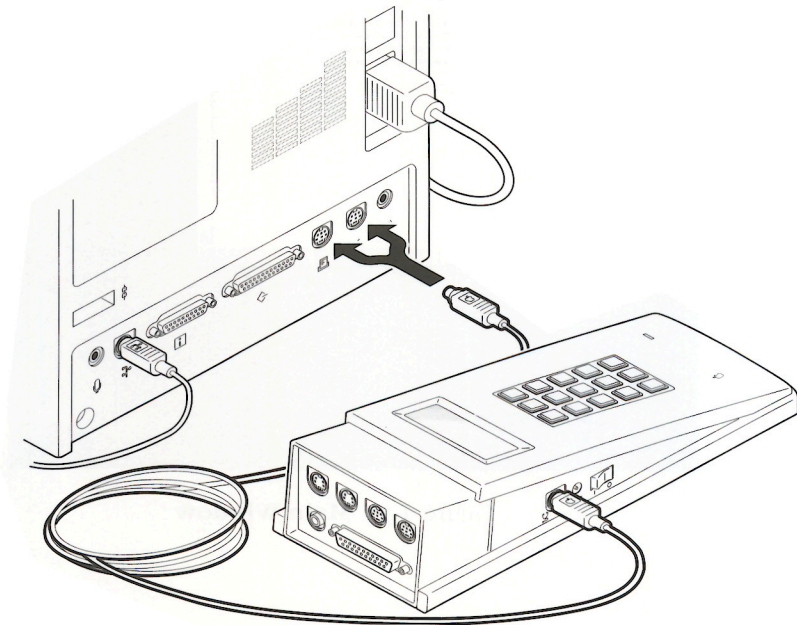

Figure 4-4 **Report Generator Setup**
1. If you'll be using the *Report Generator* to receive a log, switch off power to the Macintosh computer. Connect one end of the serial cable to the built-in serial port on Apple TechStep (next to the power switch) and the other end to the printer or modem port on the computer. See Figure 4-4.